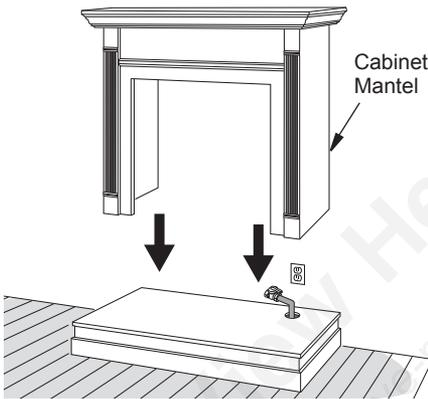

Figure 31 - Installing Cabinet Mantel
5. Center cabinet mantel on hearth base (see Figure 31, page 21). Make sure mantel is flush against wall and centered left to right on base.